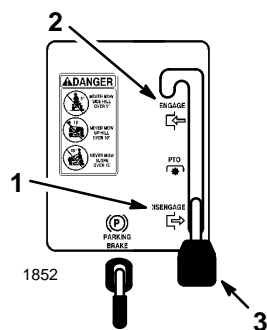

Figure 6
3. Move the blade control (PTO) to "DISENGAGED" (Fig. 6).